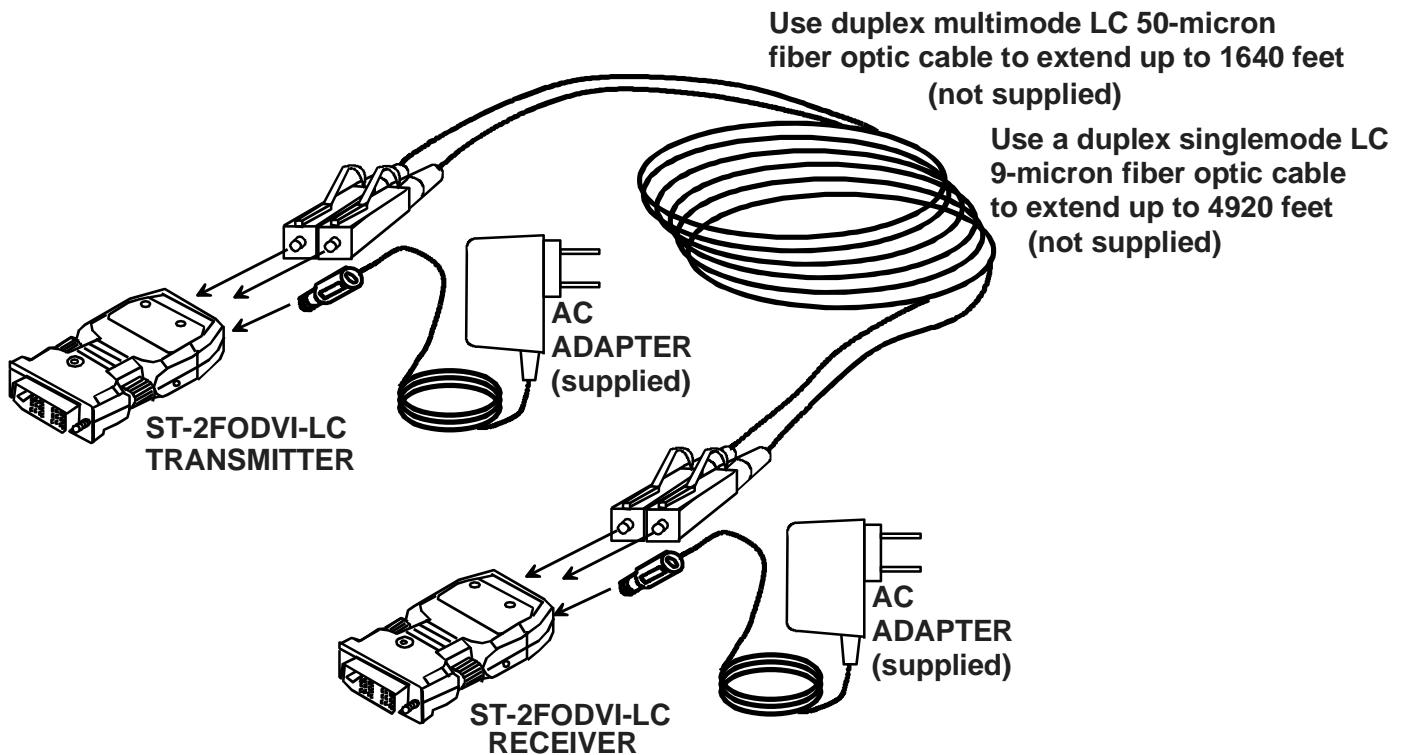

Figure 4- Connection of optical fibers
5. Connect duplex optical fiber (not supplied) between the transmitter and the receiver as shown in figure 4